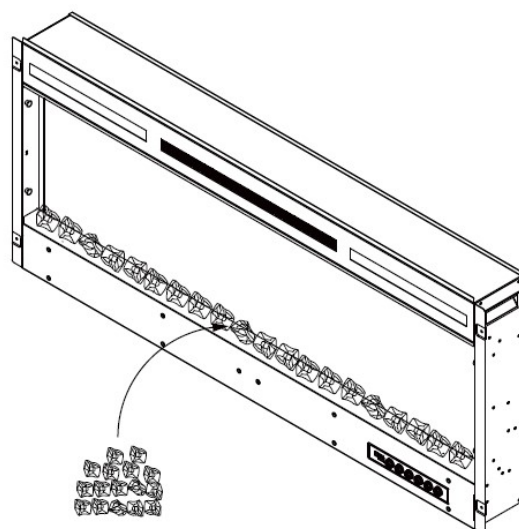

Figure 2.(Crystal medias)
- Then carefully place crystal embers into the bottom tray on the front of the appliance as illustrated. Apply an even layer from side to side. Figure 2.